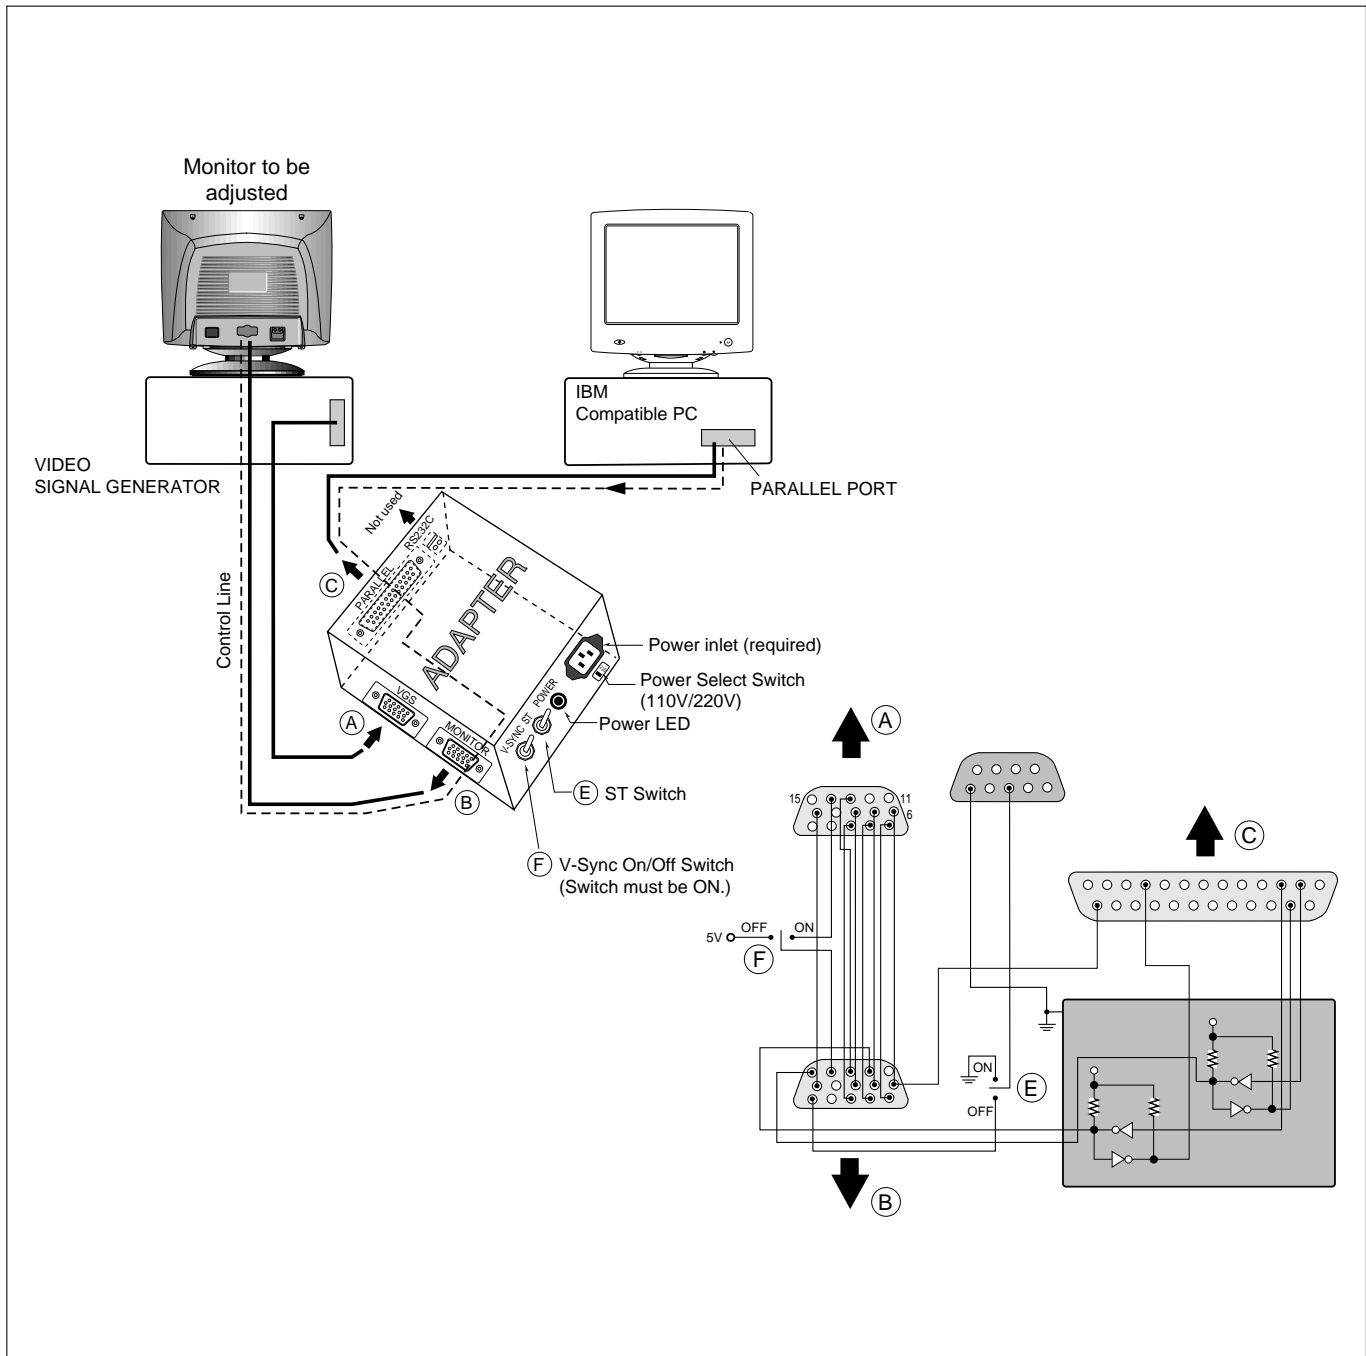

Figure 1. Cable Connection
- Install the cable for adjustment such as Figure 1 and run the alignment program on the DOS for IBM compatible PC.